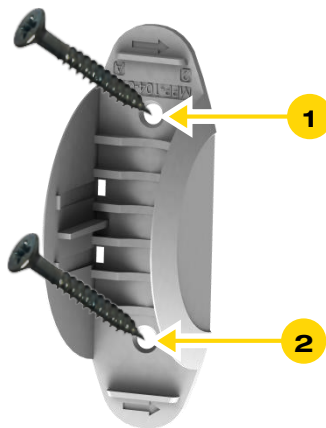

Figure 83: Magnetic Sensor Transmitter Unit Base with Screws
For the Transmitter unit, the base should be disassembled from the Transmitter body, as demonstrated in Figure 80 above, and attached to the wall either by the double-sided tape (pre-attached to the base) or using screws as demonstrated in Figure 83 below.
2. Use a flat screwdriver to remove the punch-outs 1 and 2 (see Figure 83 below).